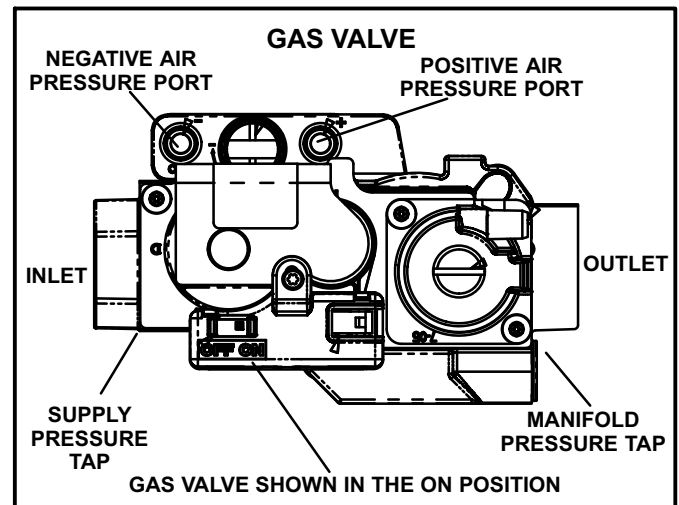

FIGURE 45
#### Gas Valve Operation (Figure 45)
- 6 - Move the gas valve switch to the **OFF** position. See figure 45.
- 8 - Move gas valve switch to the **ON** position. See figure 45. Do not force.